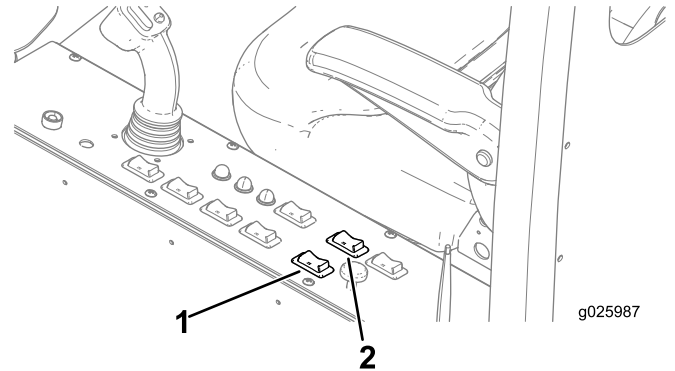

Figure 50
1. Push back on the SWING-ROCKER switch (until the cab stops) to swing the cab to the DRILL position (Figure 50).
2. Push back on the ROTATE-ROCKER switch to rotate the cab to the desired drill position (Figure 50).
1. Push forward on the ROTATE-ROCKER switch (until the cab stops) to rotate the cab to the TRANSPORT position (Figure 50).
2. Push forward on the SWING-ROCKER switch (until the cab stops) to swing the cab to the TRANSPORT position (Figure 50).